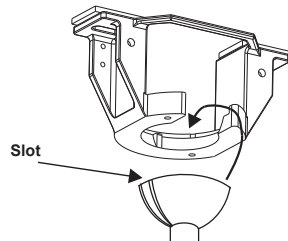

Figure 7
Step 7. Place the downrod ball into the hanger bracket socket. (Fig. 7) And rotate fan and downrod assembly until tab on bracket lines up with slot on ball.